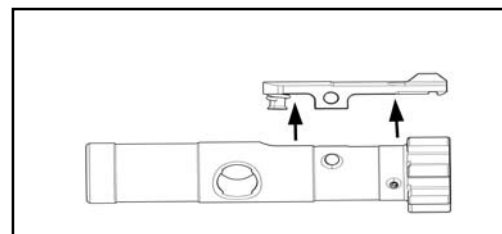

Fig. 43 – Separate the extractor from the bolt head
- h. Separate the extractor from the bolt head (Fig. 43).
- b. Insert the extractor with spring and buffer into the bolt head. Place pressure on the back of the extractor, line up the mounting surfaces and install the extractor pin. Ensure the extractor pin is centered in the bolt head before attempting to install the bolt head into the bolt carrier (Fig 43).